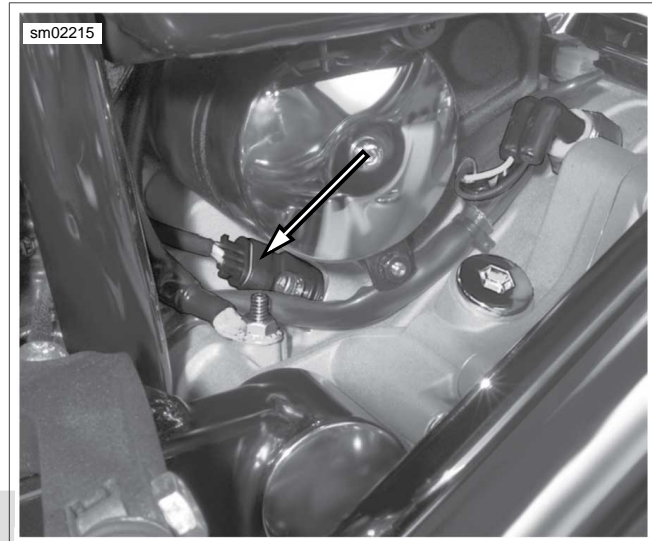

Figure 7-59. Vehicle Speed Sensor and Connector [65]
2. See Figure 7-59. Disconnect the vehicle speed sensor connector [65].
1. See Figure 7-59. Install sensor into transmission case using mounting bolt. Tighten bolt to 84-108 **in-lbs** (9.5-12.2 Nm).